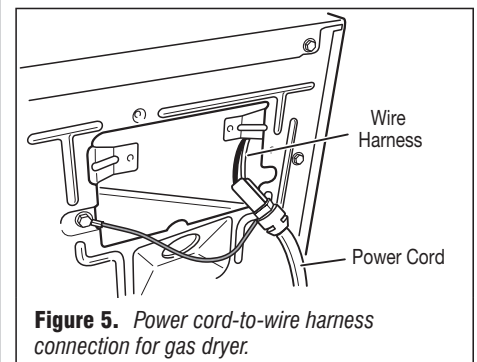

Figure 5. Power cord-to-wire harness connection for gas dryer.
3. Check that the power cord is firmly connected to the dryer's wire harness. See figure 5.
- If there is no continuity, disconnect the white wire of the harness from the power cord at the location illustrated in figure 5 above. Test